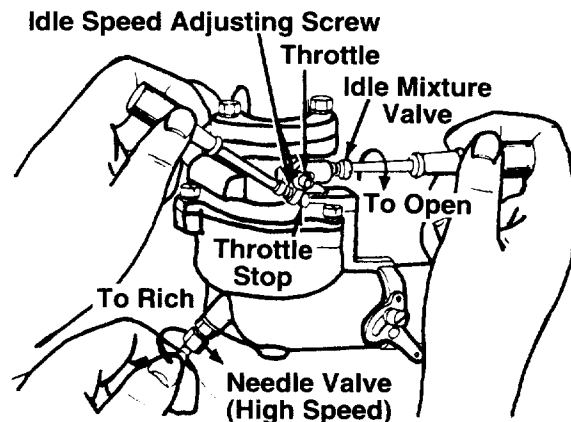

FIGURE 23.
- Close needle valve (see figure 23) clockwise (↻) finger tight only. Forcing may cause damage. Then open 1-1/2 turns counterclockwise (↺).